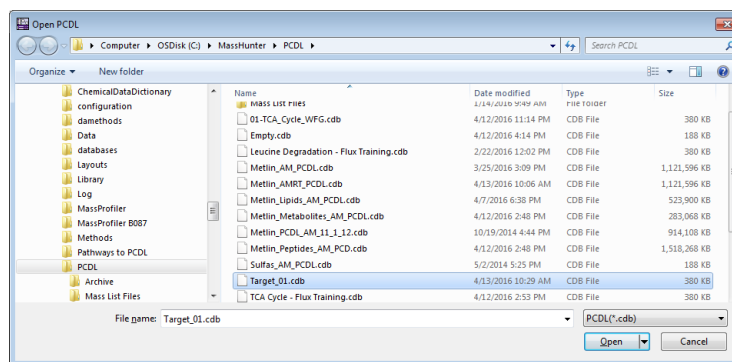

Figure 23 Open PCDL dialog box
- b Select the personal compound database created in “Specify the interesting pathways”, step “Create your custom PCD/PCDL.” on page 25, Target_01.cdb. The default folder is C : \MassHunter\PCDL (Figure 23).